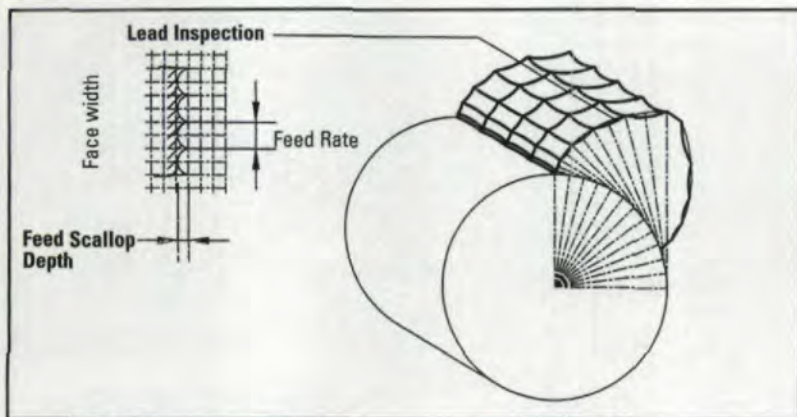

Fig. 4—Feed rate and scallop depth.
• **Cutting conditions factor.** Aggressive cutting conditions can create excessive forces that may not be adequately absorbed by the fixture, thus negatively affecting lead quality. Also, as hob cutting edges wear, the cutting forces can climb considerably. In addition, oil contaminated with chips can create an irregular lead roughness. The hob feed rate also has a direct effect on tooth surface variation in the lead direction—feed scallop depth. Frequently, people who finish hob gears want the scallop depth not to exceed a certain value. The feed rate can be determined as a function of allowable feed scallop depth at the pitch circle. The effects of the feed rate on tooth surface are illustrated in Figure 4.